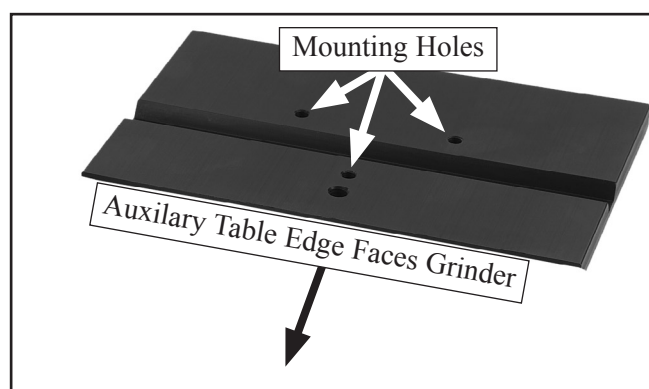

Figure 3. The mounting holes of the jig auxiliary table.
3. Center the jig auxiliary table over the grinder table, then use a scratch awl through the three mounting holes of the auxiliary table to mark the grinder table (see **Figure 3**).
Note: Make sure that you position the tables so that when the jig is mounted on the grinder, the auxiliary table edge shown in **Figure 3** is facing the grinding wheel.